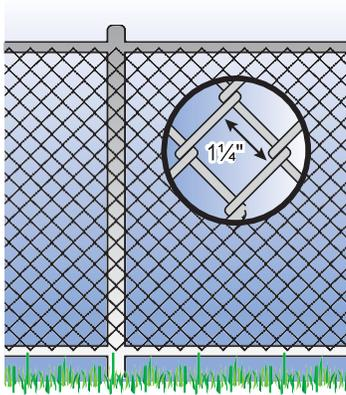
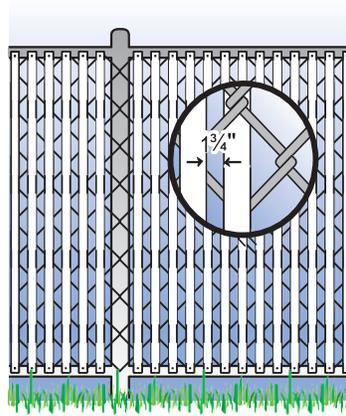

Figure 5
Figure 6
The mesh size shall not exceed $1\frac{3}{4}$ inches (fig.5) square unless slats (fig.6), fastened at the top or bottom of the fence, are used to reduce mesh openings to no more than $1\frac{3}{4}$ inches. Per 2012 ISPSC #305.2.7.
- Maximum mesh size for chain link fences shall not exceed 1¼ inch square unless the fence is provided with slats fastened at the top or the bottom which reduce the openings to no more than 1¼ inches (figures 5 and 6).